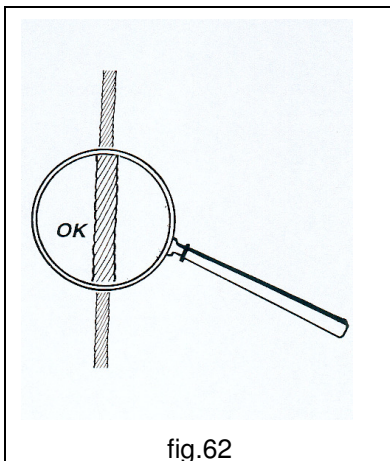

fig.62
- **ALWAYS** check the suitability and efficiency of the slings (ropes; chains; bands; etc.); in particular, check that there are no lacerations, compressed parts, broken strands or non-lubricated parts (fig.62).